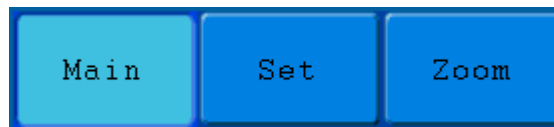

Figure 5-14 Time Base Mode Menu
- HORIZ MENU** button: with this button pushed down, the screen shows the operating menu (see *Figure 5-14*).